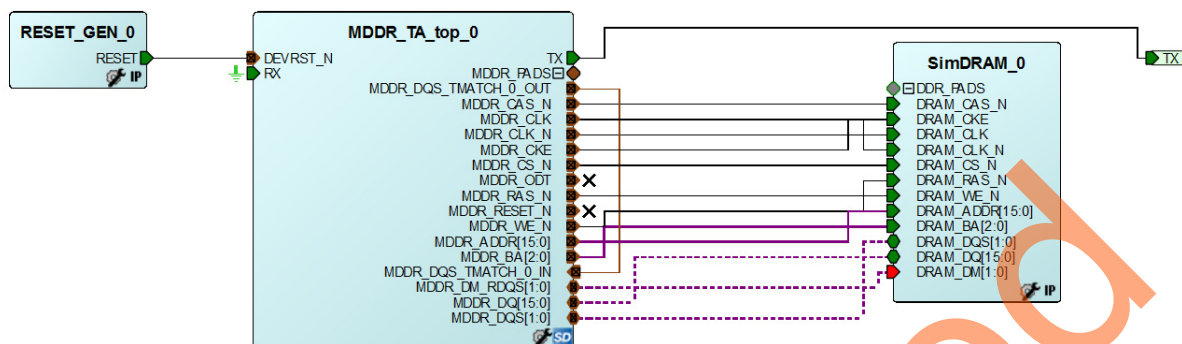

Figure 24 • SmartDesign Testbench for Example Design with Microsemi LPDDR SDRAM VIP
5. Make the connections as described in "Simulation using Micron LPDDR SDRAM model" section on page 15. The connections are same as the Micron model. Figure 24 Shows the SmartDesign testbench for the example design with Microsemi LPDDR SDRAM VIP model.